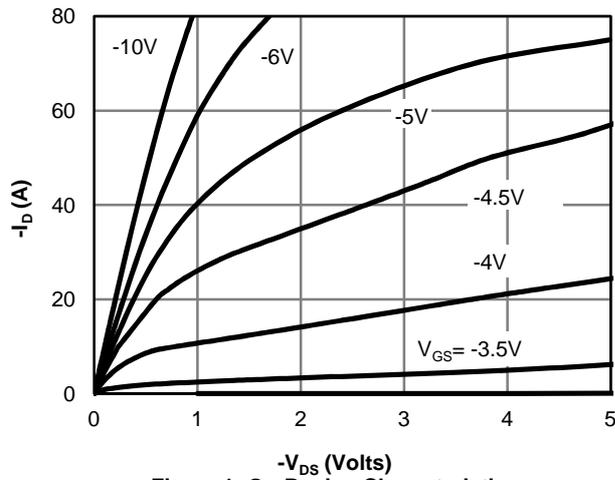

Figure 1: On-Region Characteristics
- D: The static characteristics in Figures 1 to 6 are obtained using < 300μs pulses, duty cycle 0.5% max.